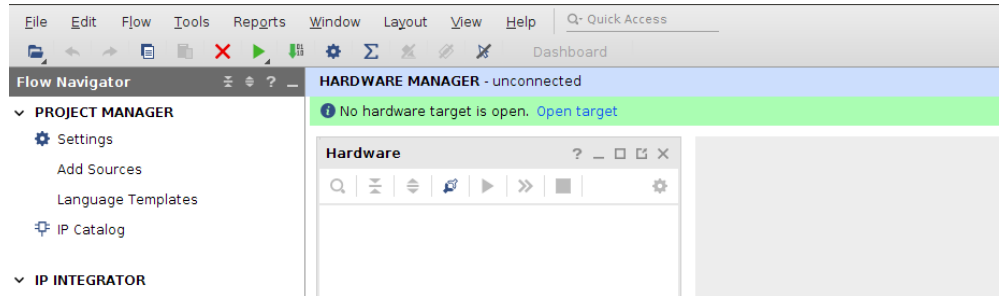

Figure 7: Open Hardware Target
8. With the Hardware Manager open in Vivado and your DSDB connected to the Elvis III and the computer as well as powered on, click Open Target along the top banner that alerts you that no hardware target is open, and then click Auto Connect (Figure 7). This will automatically search the system for any powered-on devices that can interface with Vivado and connect to them for easy programming.